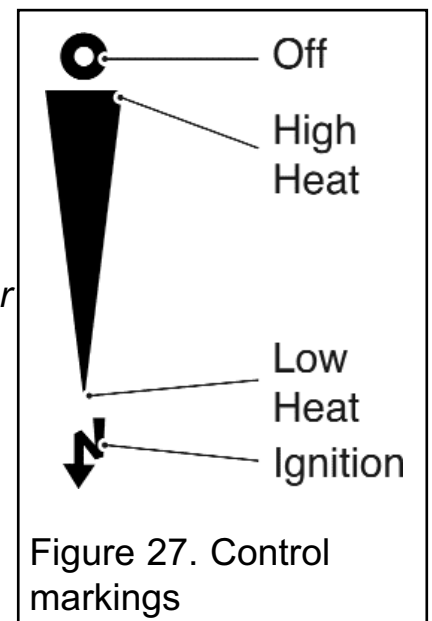

Figure 27. Control markings
The control position markings on the fascia are shown in figure 27.
5. Gradually slide the button up to increase the burner setting. The burner should be at its maximum setting at the high heat position shown in figure 27. You should feel a check to the button movement at this position.